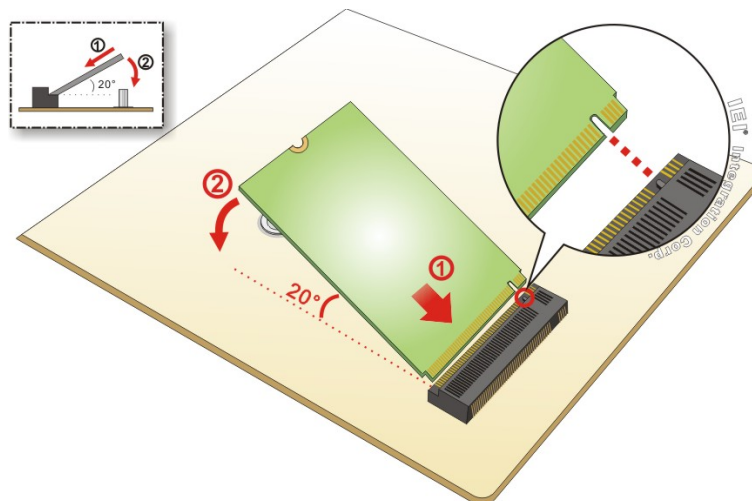

Figure 3-13: Inserting the M.2 Module into the Slot at an Angle
Step 3: Line up the notch on the module with the notch on the slot. Slide the M.2 module into the socket at an angle of about 20° (**Figure 3-13**).
- Step 3:** Connect the HDMI cable to the HDMI connector of the HTB-100-HM170 and secure the HDMI cable holder with the previously removed screw (**Figure 3-13**).